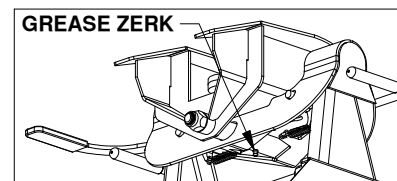

Figure J1: View under saddle.
- Grease the saddle through the grease zerk approximately every six months with multi-purpose grease. This allows the coupler to pivot freely, see Figure J1